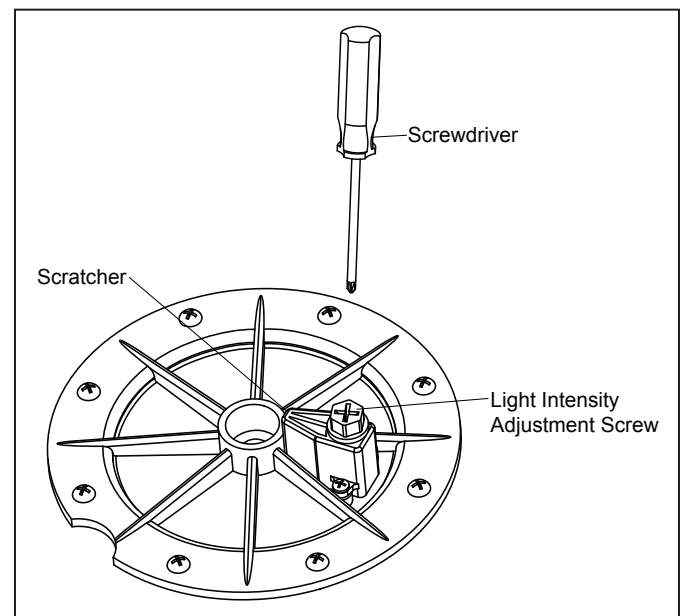

Figure 12. Scratcher Assembly and Light Intensity Adjustment Screw
1. Use the light intensity adjustment screw attached to the scratcher to adjust the light intensity as shown in Figure 12.